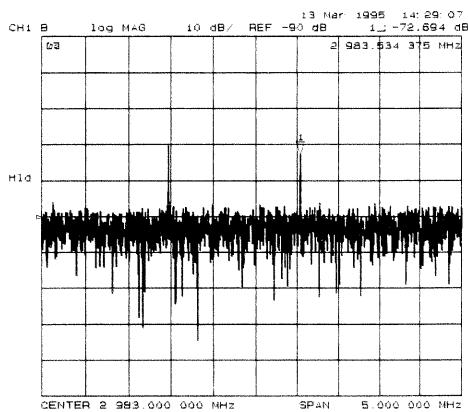
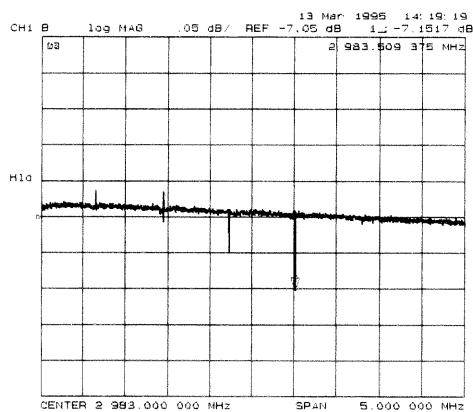
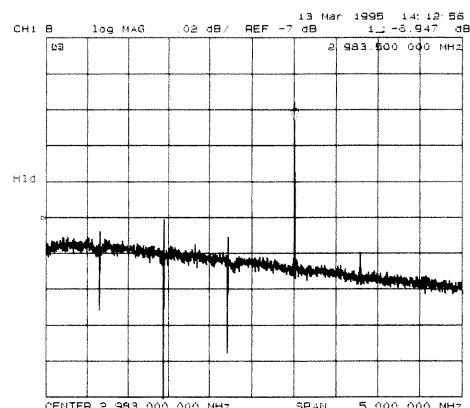

Figure 3-12. Typical Display of Spurs with a Filter
Figure 3-13. Typical Display of Four Spurs without a Filter
Figure 3-14. Target Spur Is Fourth in Display of Five Spurs
4. Press **NEXT** repeatedly. Watch the trace on each sweep and try to spot the target spur. With the filter, the target spur will be one of two obvious spurs (see Figure 3-12). Without the filter (not recommended), the target spur will be one of four or five less distinct spurs as shown in Figure 3-13 and Figure 3-14. When the center frequency increases to 2994.999 MHz, and you have not “selected” the target spur, **Cav Osc Cor FAIL** will appear on the display.
5. Press **EXECUTE TEST YES CONTINUE** and the other softkeys as required to observe and mark the target spur. The target spur will appear to the right of a second spur, similar to Figure 3-12.
The target spur usually appears as one of a group of four evenly spaced spurs as in Figure 3-13. The target spur is on the right most spur (fourth from the left). On any particular sweep, one, any, or all of the spurs may be large, small, visible, above or below the reference line.
On occasion the largest spur appears as one of a group of five evenly spaced spurs as shown in Figure 3-14. The target spur is again the fourth from the left (not the fifth, right-most spur).